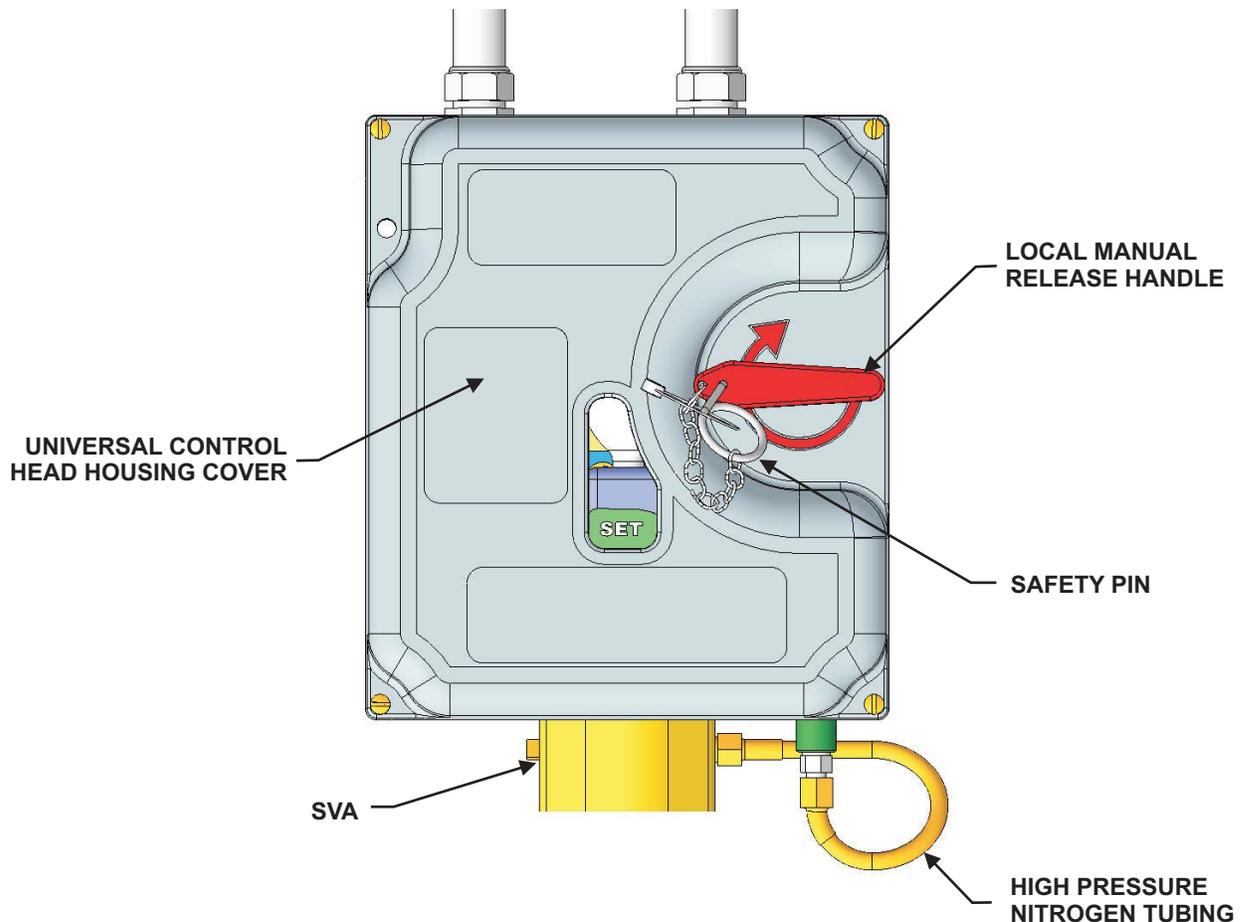

Figure 4-57. Universal Control Head, Cover Attached
2. Locate the cover of the Universal Control Head. Ensure that the local manual handle is set and that the Safety Pin is inserted (see Figure 4-57). The handle should be locked in the set position. If the handle can turn, adjust until the pin can be inserted all the way through the handle into the body of the cover.